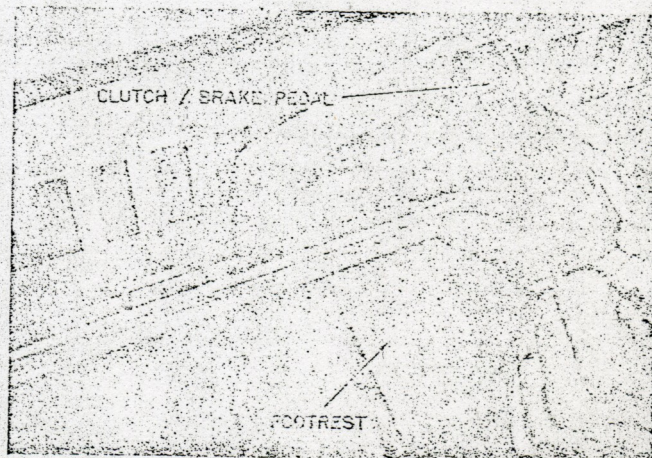

Figure 2
6. The clutch/brake pedal should come to rest 1/4-inch to 1/2-inch from the front of the footrest. See Fig. 2.